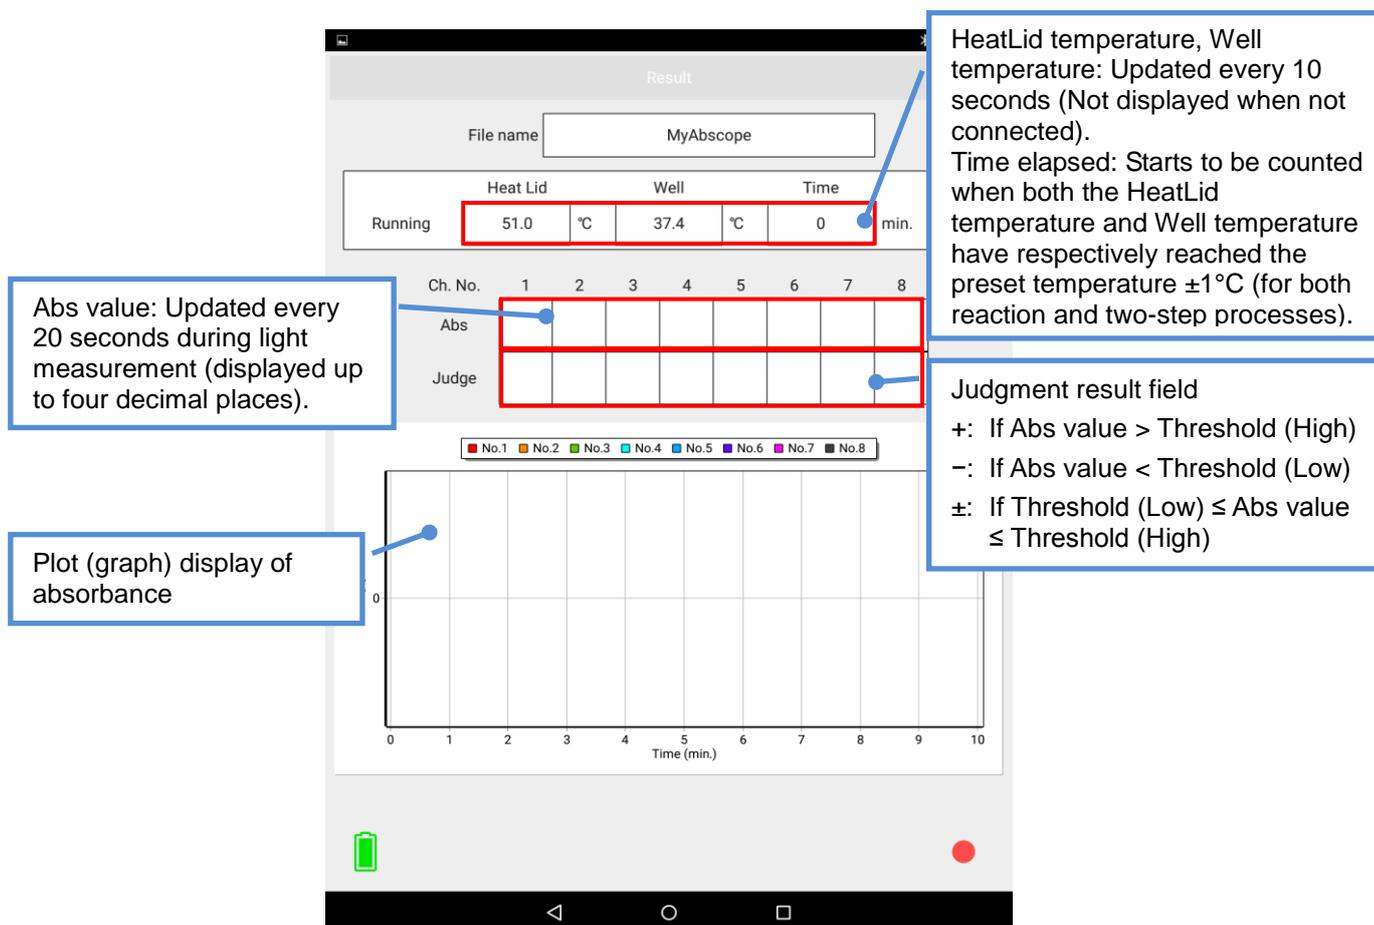
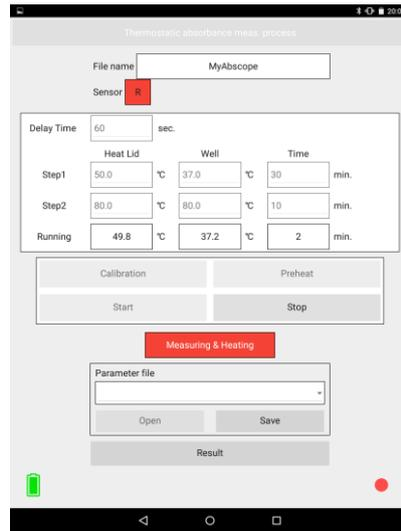
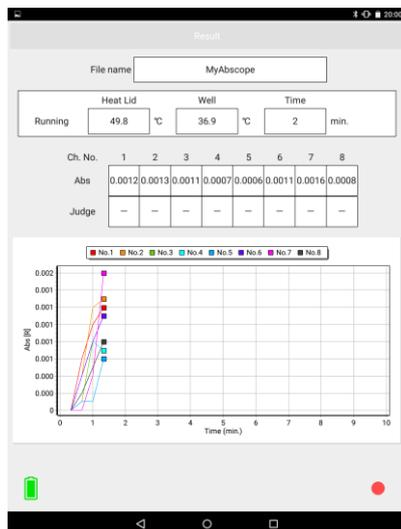
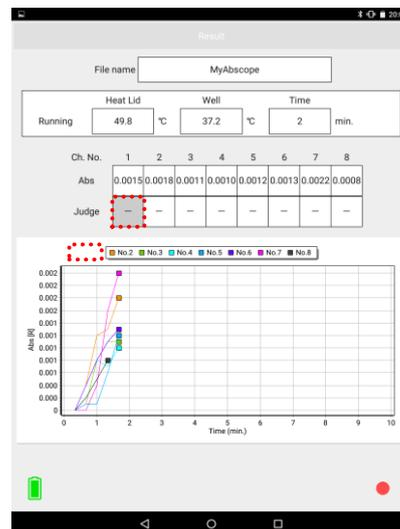

Figure 4-23: Thermostatic absorbance measurement result screen
Figure 4-24: Indication of Measuring&Heating state
Figure 4-25: Graph display during absorbance measurement
Figure 4-26: Switching show/hide for measured data
- (16) If you tap the reaction process start button (6) in Figure 4-7 within 15 minutes after the preset preheat temperature is reached, absorbance measurement starts after setting the initial value (zero adjustment), and the thermostatic absorbance measurement result screen is displayed (Figure 4-23). The status indication changes to “Measuring&Heating” on the setting screen (Figure 4-24 on the next page). During absorbance measurement, Abs values (up to four decimal places) are updated in real time every 20 seconds, and at the same time, the measurement results are plotted on graphs in real time (Figure 4-25 on the next page). By tapping the relevant judgment result field, you can hide the (unnecessary) graphs of unmeasured Wells (Figure 4-26 on the next page). After the first-step reaction is completed, the second-step process is automatically performed at the preset temperature and time.